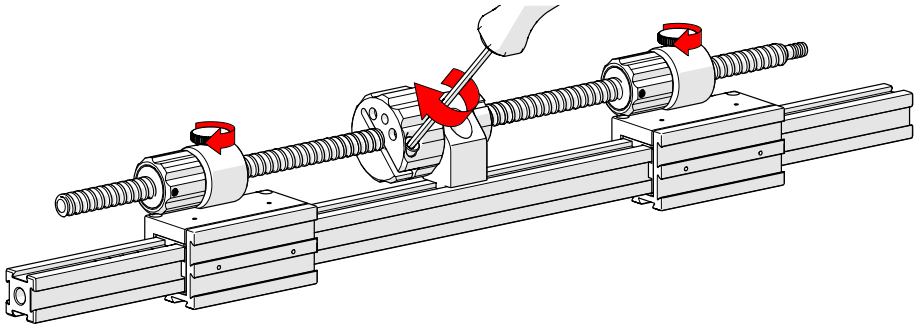

Fig. 130 - Tighten hexagonal screw
5. Tighten the main knob's hexagonal screw (Fig. 130).